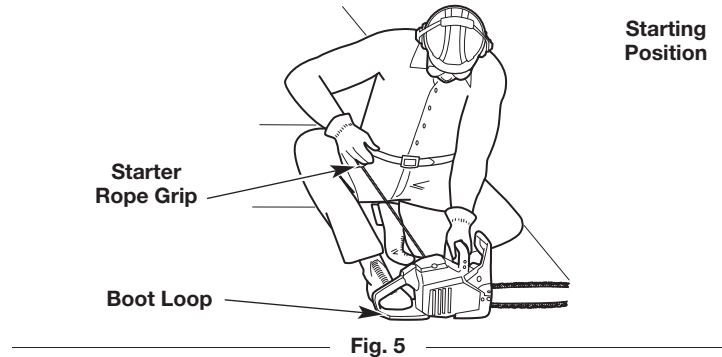

Fig. 5
**WARNING:** Avoid accidentally starting the unit. To avoid serious injury, the operator and the unit must be in a stable position when pulling the starter rope (Fig. 5).
9. **DO NOT** touch the throttle control. Crouch in the starting position (Fig. 5). Hold the front handle with the left hand. Hold the starter rope grip with the right hand. Insert the right foot into the boot loop to help hold the unit firmly in place.
10. **DO NOT** touch the throttle control. Pull the starter rope with a controlled and steady motion **5 times** (Fig. 5).